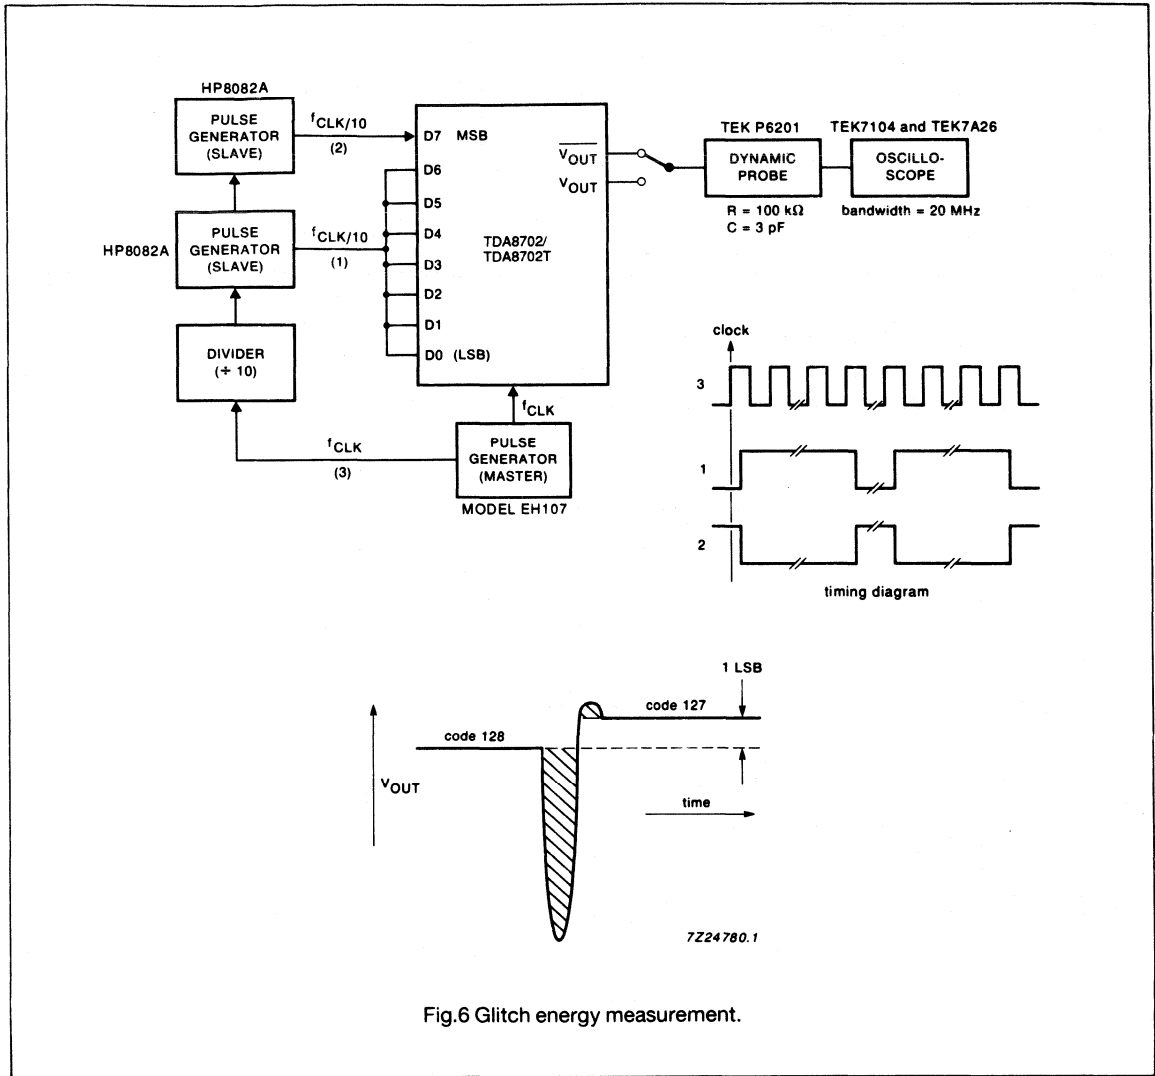

Fig.6 Glitch energy measurement.
Output transients (glitches; $f_{\text{CLK}} = 30 \text{ MHz}$; note 6; see Fig.6)
- The definition of glitch energy and the measurement set-up are shown in Fig.6. The glitch energy is measured at the input transition between code 127 to 128 and on the falling-edge of the clock.
Note to Fig.6